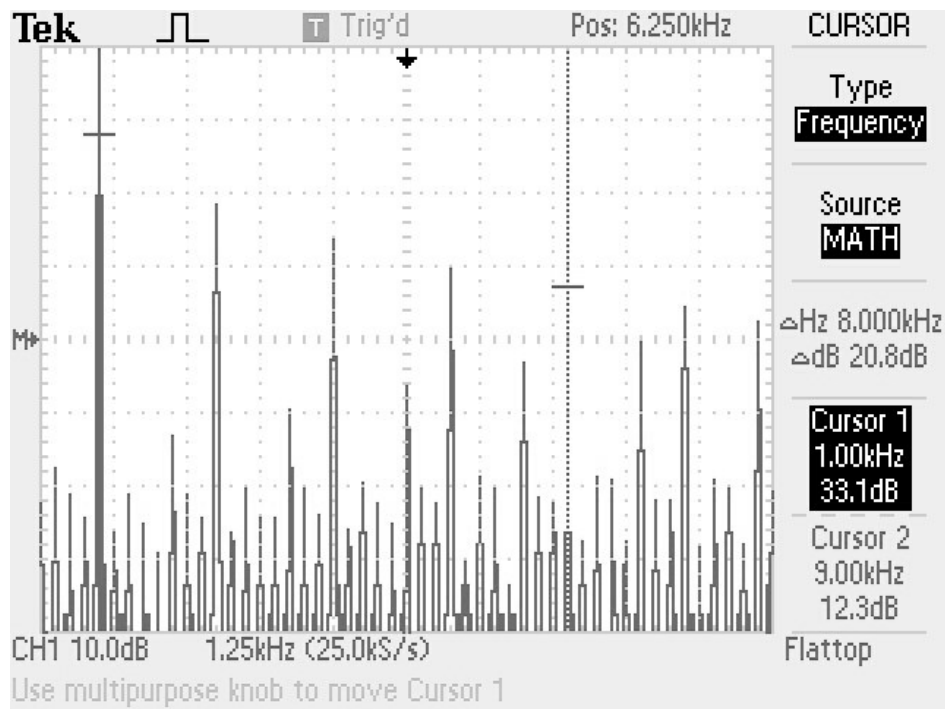

Figure 1.4: FFT Measurements
- (b) Set your function generator to a 10vpp 1Khz square wave. Use CH1 of your oscilloscope to measure and verify the square wave. Press the math button and select type FFT. Adjust the horizontal control to 1.25KHz and position the wave to be similar to Figure 1.4 *FFT Measurements*. Press the cursor button and select type Frequency. Set cursor 1 to the 1Khz position